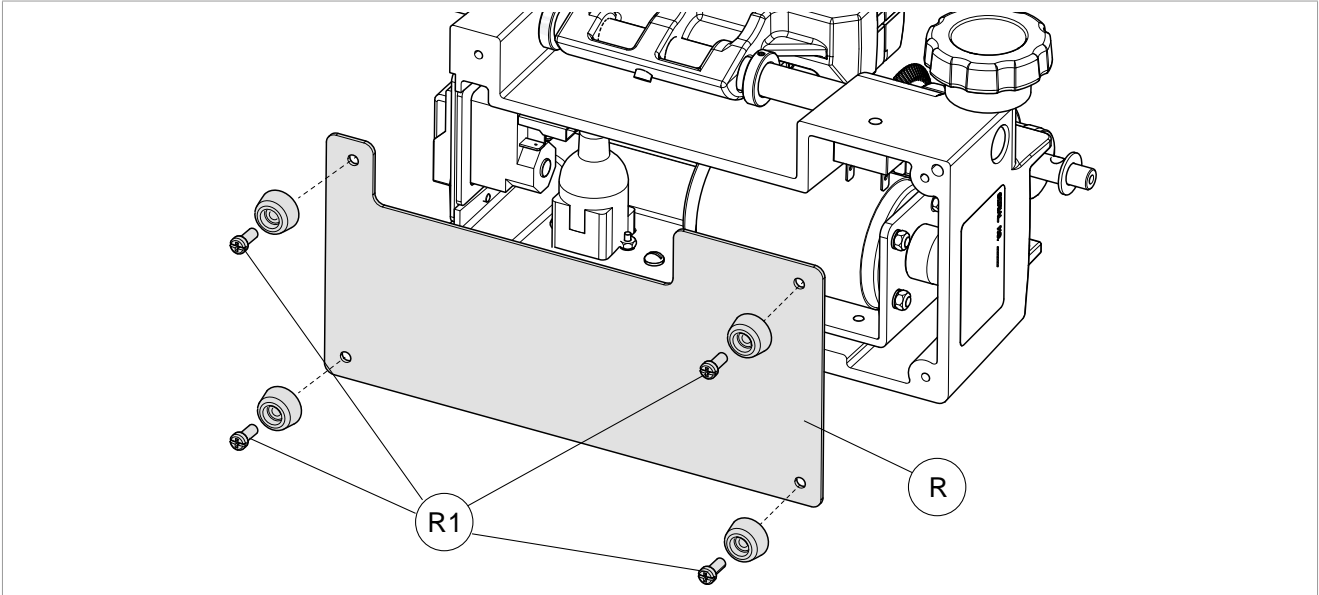

Fig. 35
- 3) Loosen the 4 screws (R1) and remove feet and bottom plate (R) (Fig. 35).